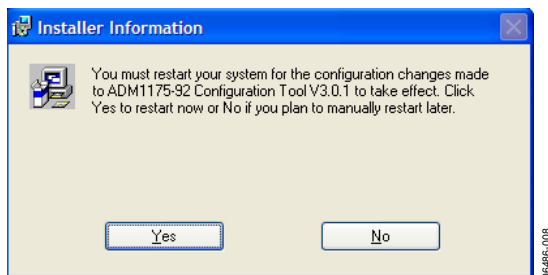

Figure 10. Installation Restart Reminder
- Click **Finish**. The message shown in Figure 10 appears, indicating that you must restart the system for the configuration changes to take effect. Click **Yes** to restart the PC immediately; click **No** to manually restart later.